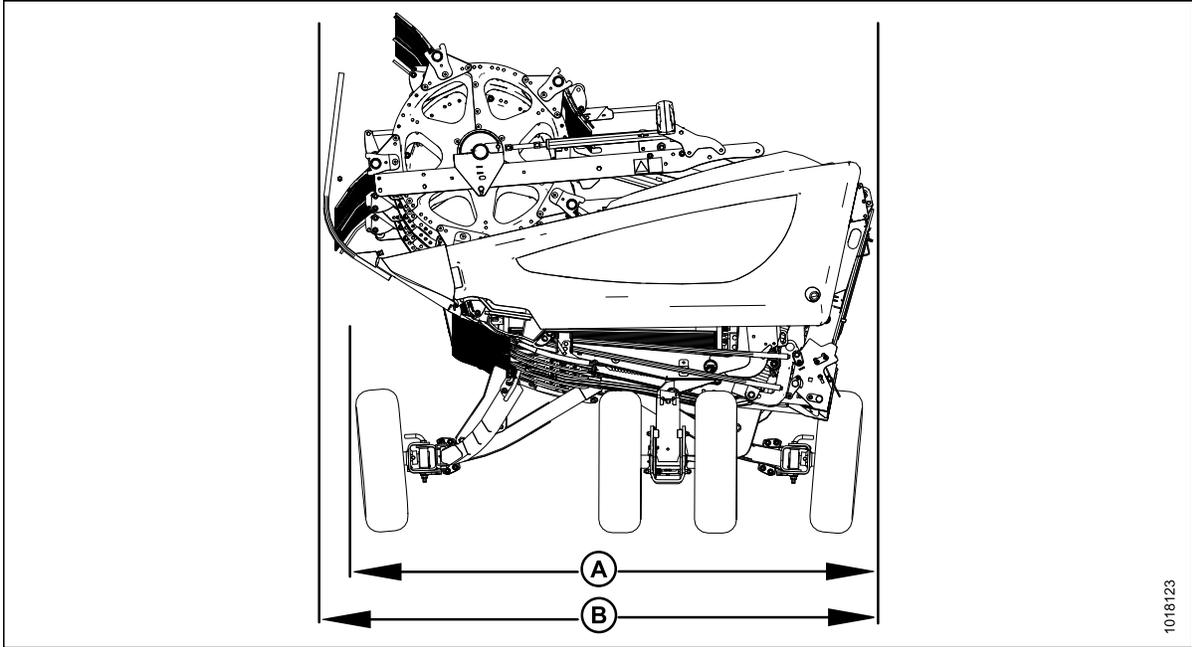

Figure 2.1: Header Width
2. Refer to Figure 2.1: Header Width, page 23